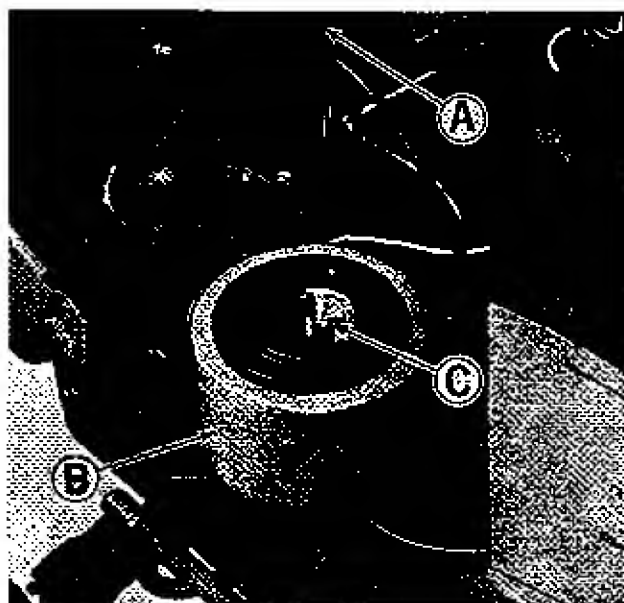

Figure 20. Air cleaner with cover removed on left side of engine.
See figure 20. All grass and chaff should be removed from the engine fins (A); **CAUTION: THE ENGINE FINS ARE VERY HOT AFTER THE ENGINE HAS BEEN OPERATED. DO NOT TOUCH THEM UNTIL THE ENGINE HAS BEEN ALLOWED TO COOL. NEVER SPRAY WATER ON A HOT ENGINE.**
2. See figure 20. Remove the foam precleaner (B) and wash it in liquid detergent and water and squeeze dry.
4. Install the foam precleaner as shown in figure 20.
CLEAN OR REPLACE AIR FILTER ELEMENT: The engine air cleaner is made up of two types of filters. The foam filter (Figure 20, Item B) and a dry filtering element. The foam element should be cleaned and oiled every 25 hours as explained under the Every 25 Hour Maintenance Services. Once a year or every 100 hours, whichever occurs first, the paper element should be removed and cleaned or replaced. Proceed as follows:
2. See figure 20. Remove the foam element (B) and clean and oil it as described in the Every 25 Hour Maintenance Services.
3. Remove wing nut (C) and remove the paper element from the air cleaner.
5. See figure 20. Replace the paper element and wing nut (C) and tighten it securely.
6. Install the foam element (B) over the paper element as shown in figure 20.